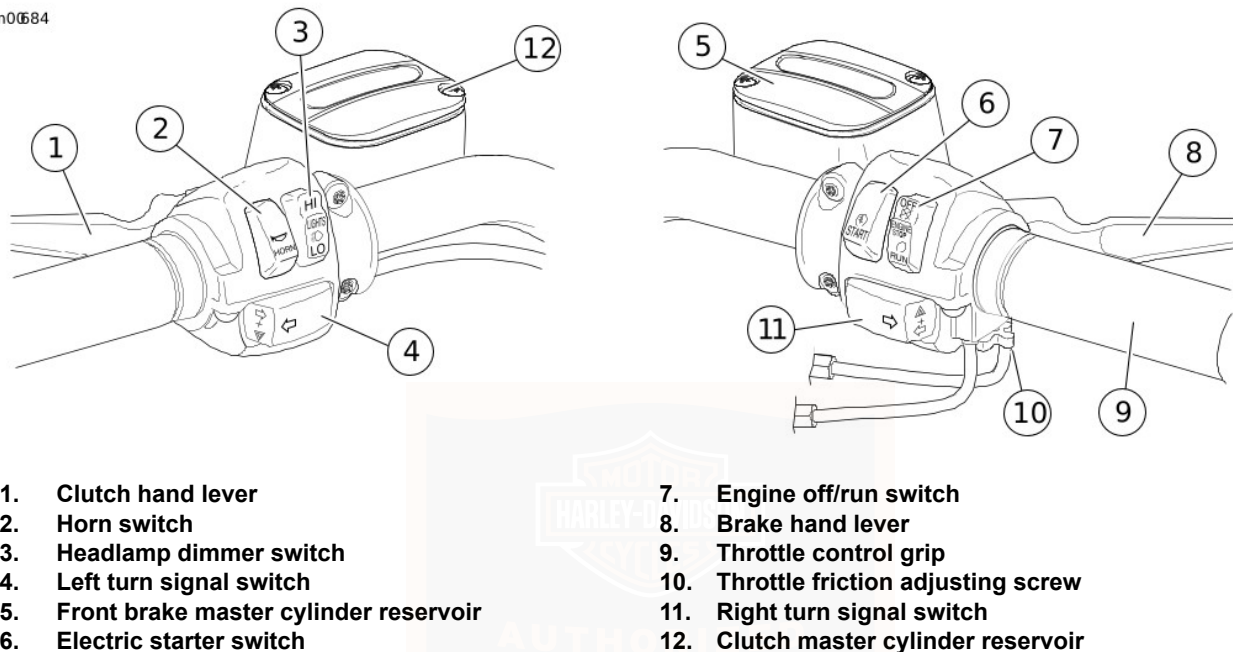

Figure 9. Handlebar Controls
See Figure 9. The electric starter switch is on the right handlebar control group. See OPERATION > STARTING THE ENGINE (Page 81) for detailed operation procedures.
See Figure 9. The engine OFF/RUN switch (7) turns the ignition power ON or OFF. The engine OFF/RUN switch is on the right handlebar control. Push the top portion of the engine OFF/RUN switch to turn off ignition power and shut off the engine. Push the bottom portion of the engine OFF/RUN switch to turn on ignition power.
See Figure 9. The throttle control grip (9) is on the right handlebar control. The throttle control grip is operated with the right hand.
See Figure 9. The clutch hand lever (1) is on the left handlebar. The clutch hand lever is operated with the fingers of the left hand.
See Figure 9. The horn is operated by pushing the horn switch (2) on the left handlebar control.
See Figure 9. The headlamp dimmer switch (3) is on the left handlebar. The switch has two positions to activate the headlamps high or low beams.
- The right turn signal switch (11) operates the right front and right rear flashing lamps.
- The left turn signal switch (4) operates the left front and left rear flashing lamps.
See Figure 9. Each handlebar control group contains a turn signal switch.